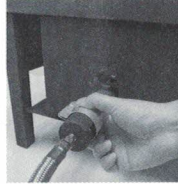

FIG. 2
2. Adjust the flame to the desired height. Flame should be compact and blue with a slight yellow tip. If the flame is too "Yellow" adjust the air mixture valve under the throat of the cast burner (FIG. 2) until the flame color is achieved.